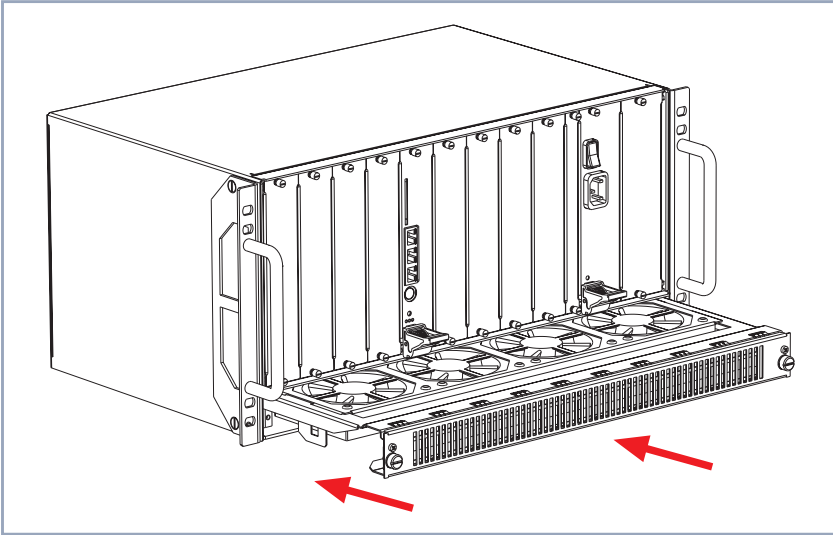

Figure 1-3: Inserting the fan cassette into the fan slot
- Insert the fan cassette into the fan slot as shown in figure 1-3, page 18.